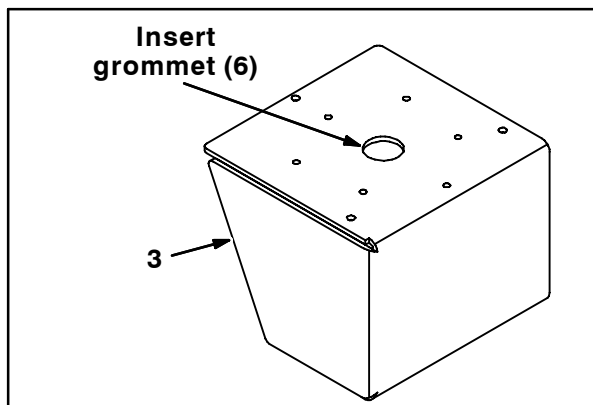

FIG. 13
20. Insert a grommet (6) into the hole on top of the strobe mounting bracket (3). Refer to Fig. 13.